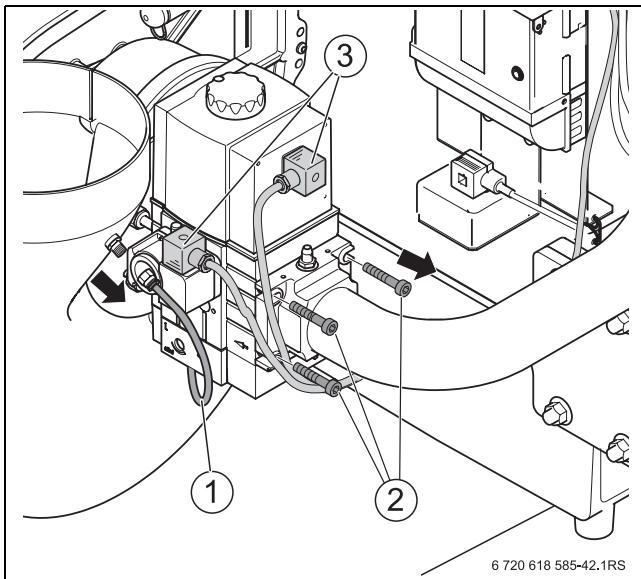

Fig. 55 Undoing the gas valve connections
- ▶ Undo the electrical connections at the gas valve and the fan (→ Fig. 55, page 48).